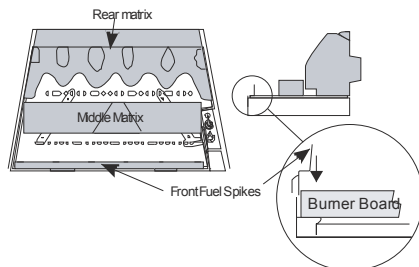

Figure 31
1. Having unpacked all the fuel-bed components proceed with placing the **rear matrix** pieces centrally and to the rear of the burner tray ensuring that it touches the ceramic fire-back (see **Figure 31**).
2. Place the **middle matrix** pieces onto the burner board so that they key into the triangular depression on the board (see **Figure 31**).
3. Insert the front fuel spike between the board and the front of the metal tray (see **Figure 31**).